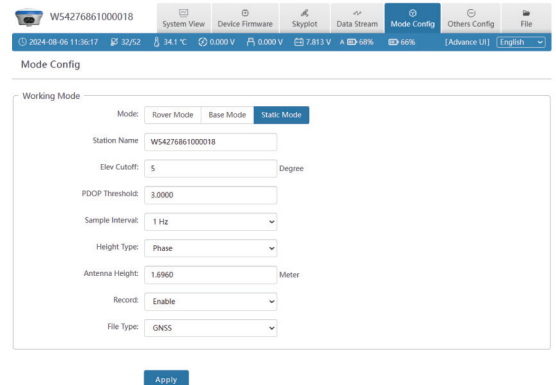

Figure 2.5-3
3. Static mode: the following parameters (Station Name, Elev Cutoff, PDOP Threshold, Sample Interval, Height Type, Antenna Height, Record) can be configured, as shown in Figure 2.5-3: